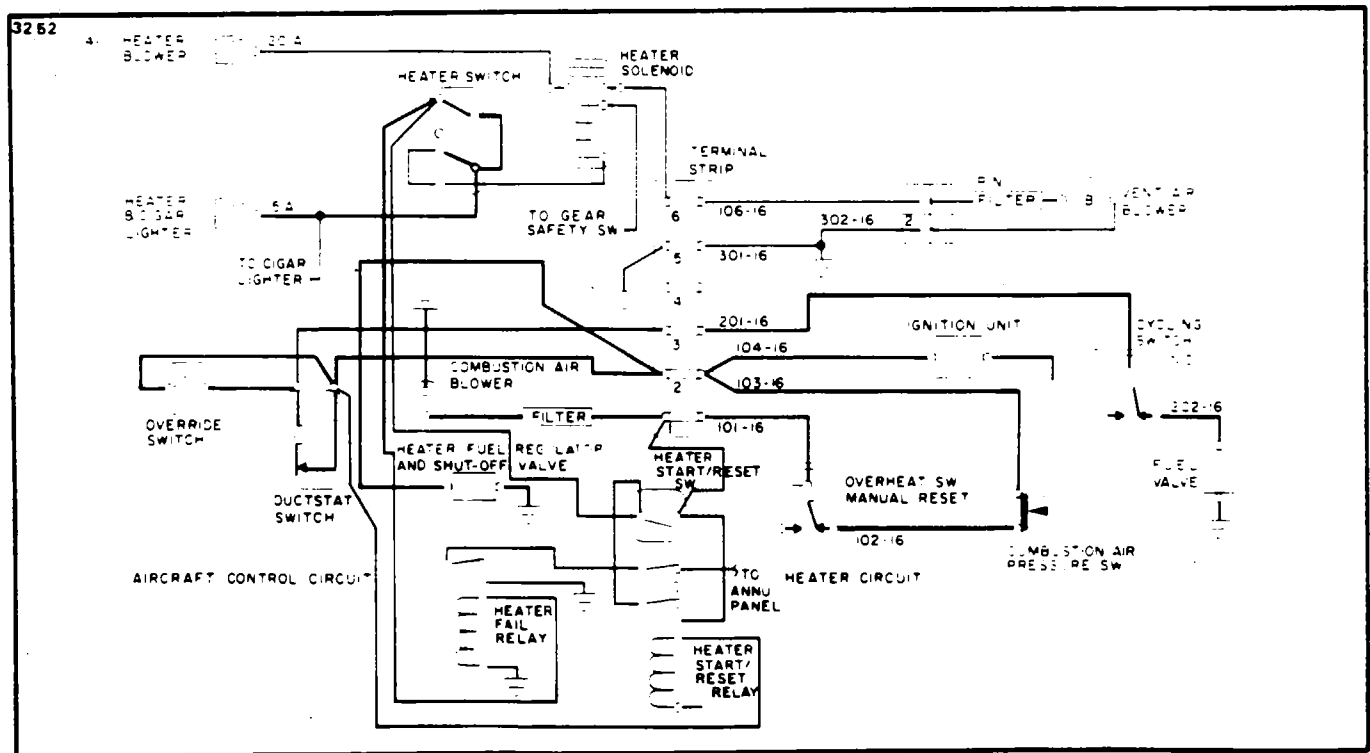

Figure 13-8. Heater Power Circuit
a. With the HEATER SWITCH in the HEAT position, electrical continuity should be present at the following locations. (Refer to Figure 13-8.)